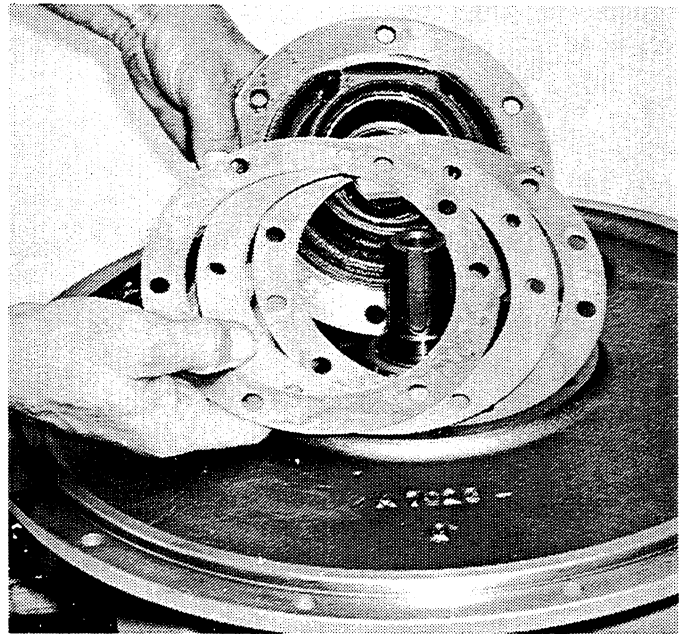

Figure 9-7. Installing Shims and Input Bearing Support.
2. Make up a shim pack (Figure 12-2, 8) (see Figure 9-7) equal to the space measured plus 0.005 inch.